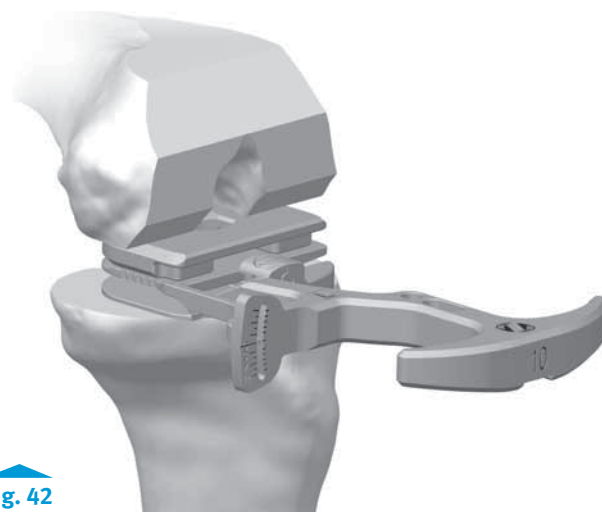

Fig. 42
- The +9mm Zimmer FuZion Femoral Paddle can be attached to the Zimmer FuZion +0mm Femoral Paddle and used with the Zimmer FuZion Spacer Block to check the flexion gap after resection (Fig. 42).